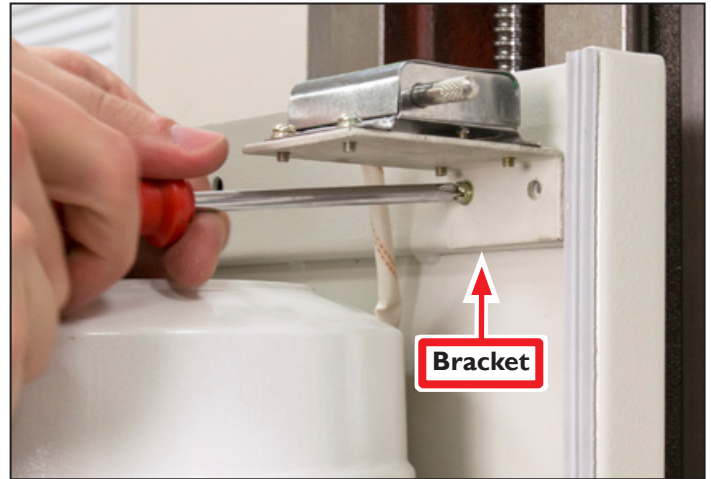

Figure 14
1. Remove the Bracket from the back of the spindle motor cover with a #2 Phillips screwdriver (see **Figure 14**).